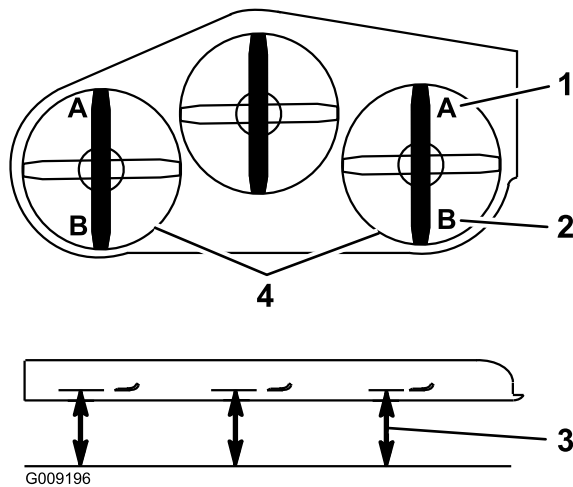

**Figure 86**
5. Push the deck-lift pedal all the way forward so the deck latches at the 14 cm (5-1/2 inch) transport position (Figure 86).